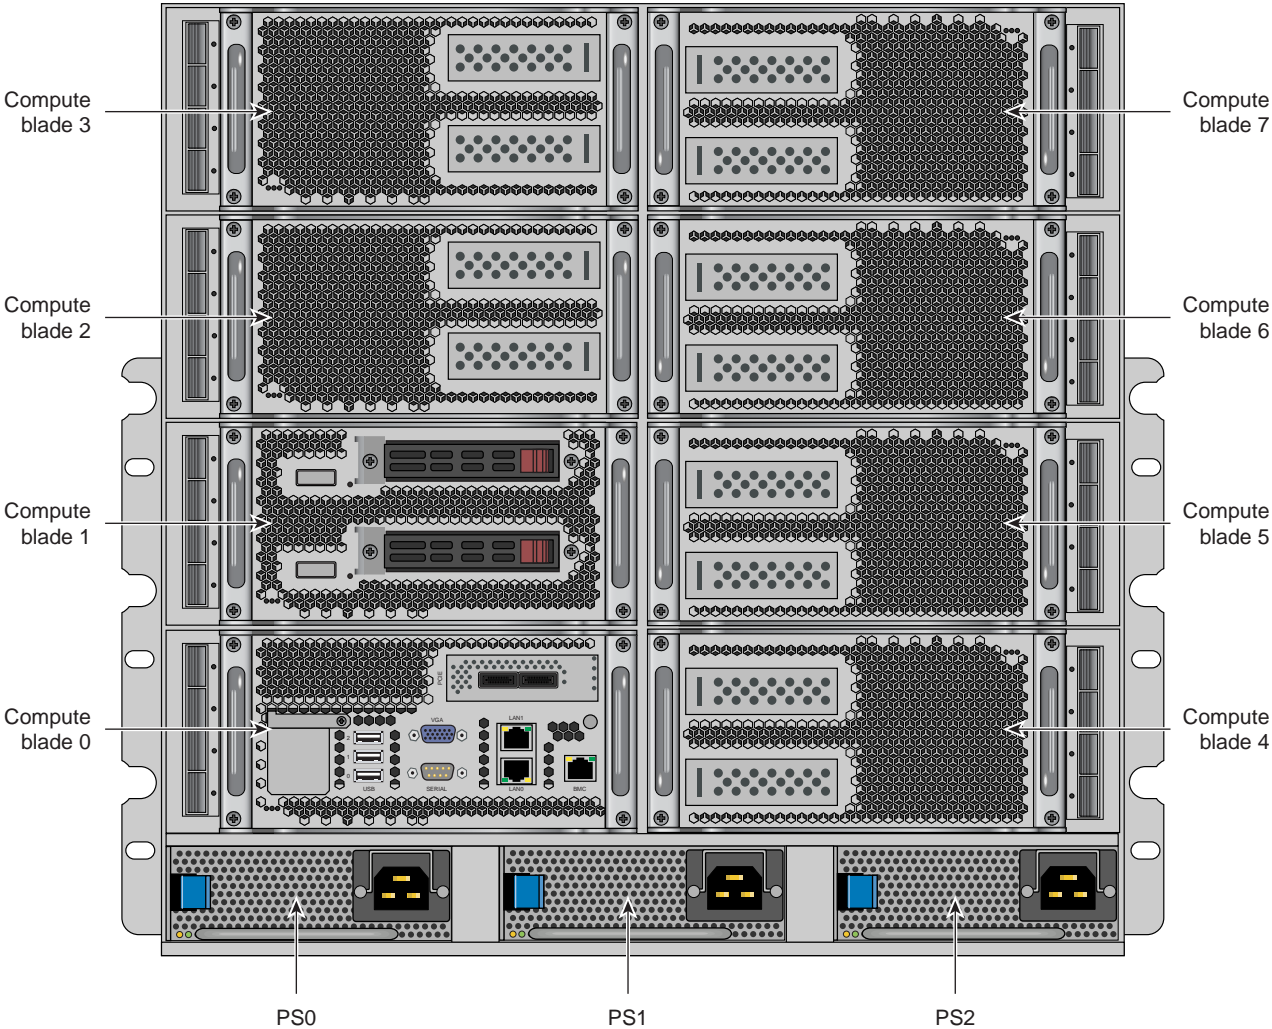

Figure 3-5 SGI UV 2000 IRU System Components Example
- **Individual Rack Unit (IRU).** This enclosure contains three power supplies, 2-8 compute/memory blades, BaseIO and other optional riser enabled blades for the SGI UV 2000. The enclosure is 10U high. Figure 3-5 on page 47 shows the SGI UV 2000 IRU system components.